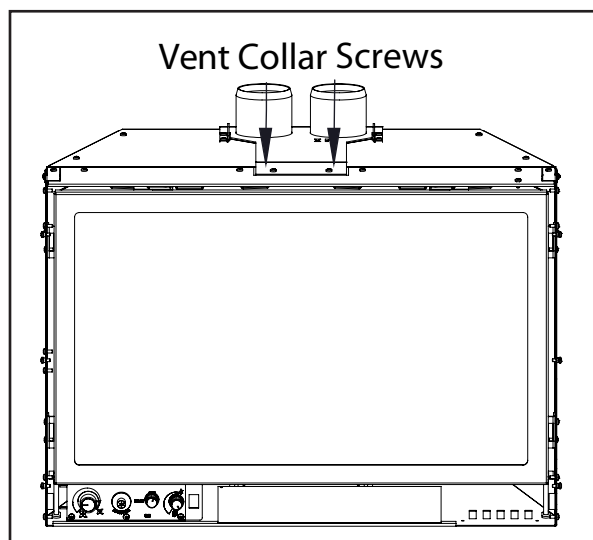

Figure 21: Vent Collar Plate Screw Location.
8. Apply a bead of stove cement sealant to the Ø3" (76mm) pipe of the exhaust vent terminal. Slide the flex liner onto the vent terminal and secure with three (3) sheet metal screws evenly spaced.
9. Place a bead of high temperature silicone on the intake collar of the vent terminal. Slide the Ø3" (76mm) flex intake liner over the collar, secure the flex liner with three (3) sheet metal screws evenly spaced. Secure the vent terminal to the chimney using adequate sealant, and according to local building codes.
10. If the fireplace opening is lower than 24" (610 mm), remove the vent collar plate from the top of the insert by unscrewing the two (2) T-20 Torx screws located on the center top of the stove above the door opening (see Figure 21). Slide the collar plate backwards. Properly secure the vent collar plate to the flexible vent pipe liner(s) previously installed in the chimney. Be careful not to over-stretch the liner(s).
11. Apply a bead of stove cement sealant to the top section of the Ø3" (76mm) exhaust vent collar plate. Slide the Ø3" (76mm) flex vent over the flue collar and secure with three (3) sheet metal screws evenly spaced.
12. Place a bead of high temperature silicone on the intake collar of the fireplace, slide the Ø3" (76mm) flex intake liner over the collar, secure the flex liner with three (3) sheet metal screws evenly spaced.